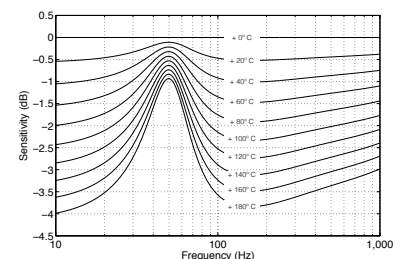
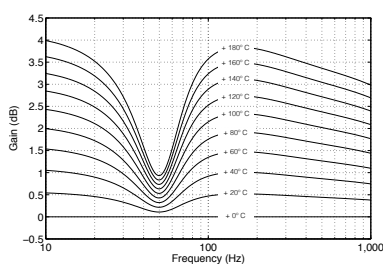

Figure 20.4: Example of the sensitivity of a woofer vs. the *change* in temperature of its voice coil.
Figure 20.5: Magnitude responses of the compensating filter for a woofer vs. the temperature of its voice coil.
The total result is shown for various temperature differences in Figure 20.4. Notice that these plots show the change in magnitude response of the driver with *changes* in temperature. So, the curve at the top is the change in the woofer's magnitude response (which is 0 dB at all frequencies – in other words no change) when the loudspeaker is playing at the same temperature at which it was measured (let's say, 20°C or room temperature). As the temperature of the voice coil increases above that temperature, you can see that you lose output in two frequency bands on either side of a “bump” in the response – that bump is at the resonant frequency of the loudspeaker driver.
Interestingly, everything I said above is true for every moving coil loudspeaker. So, if you're the kind of person who believes that the only "proper" loudspeaker is one where you have nothing but a loudspeaker driver (in a cabinet of any kind, or not) and an amplifier – and no active filtering, then you'll have to live with the kind of unpredictable behaviour that you see above. However, since a Beolab 50 "knows" the temperature of the voice coil of its loudspeaker drivers, and since it has been programmed with the curves like the one shown in Figure 20.4, we can actively linearise its response, making it much more predictable.
In essence all we need to do is to take Figure 20.4, flip it upside down and make a filter that "undoes" the effect of temperature on the loudspeaker's response. For example, if the woofer's voice coil gets 160°C above room temperature (where we originally measured it), it drops 3.2 dB at 20 Hz, the Beolab 50 knows this and adds 3.2 dB at 20 Hz. In order to do this, the processing of the Beolab 50 includes a set of filters (one for each driver) whose response varies in time with the temperatures of the the drivers. The temperature-dependent filters for the front woofer are shown in Figure 20.5.
- This particular filter shown in Figure 20.5 should only be applied to the appropriate loudspeaker driver. The other woofers and the other drivers have different behaviours and should be processed with their own correction curves. In other words, this filtering can only be done because the Beolab 50 is an active loudspeaker with independent filtering for each of the 7 loudspeaker drivers.